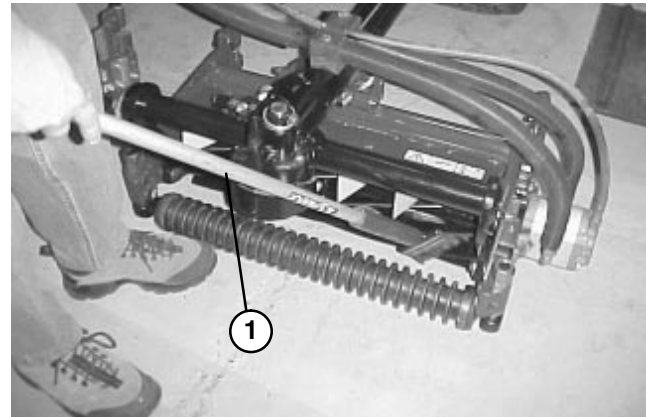

Figure 62
8. Apply lapping compound with a long handle brush (Toro Part No. 29-9100). Never use a short handled brush (Fig. 62).